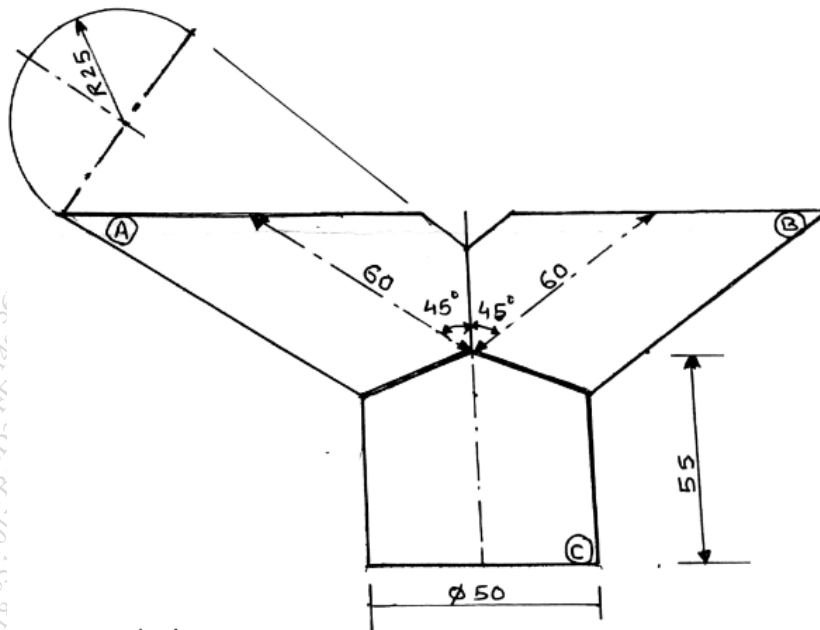

Fig 1
Q.1 Three cut pieces of cylindrical pipes form a 'Y' Joint as given in Fig.1. Draw the development 14 of surfaces of all pieces A,B and C of 50 mm diameter.